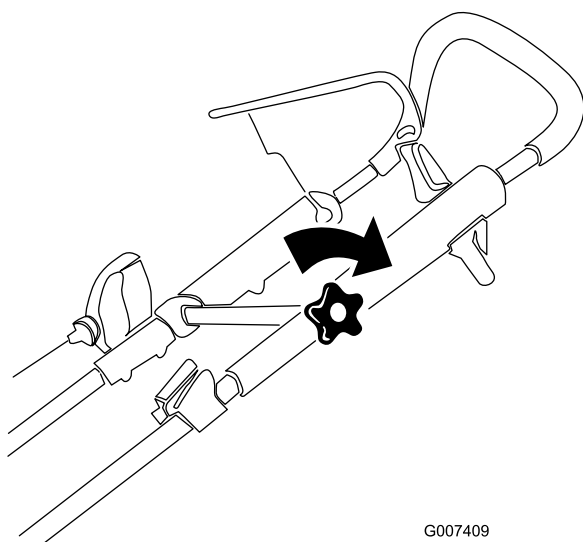

**Figure 19**
2. Move the upper handle to the desired position (Figure 19).
3. Tighten the upper-handle knob firmly (Figure 19).